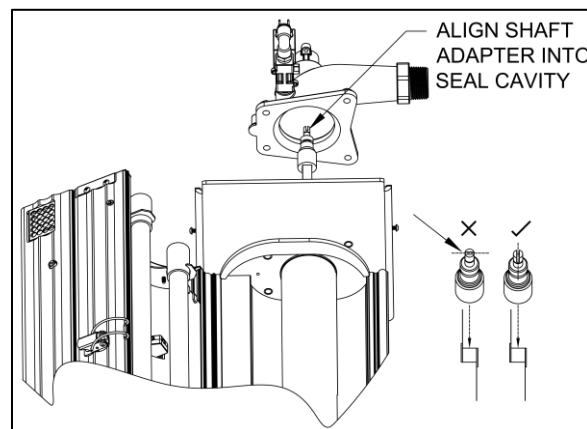

Figure 7-11
3. Once the quartz sleeve is clean, reassemble the unit (see Figure 7.11). Replace any seals that appear to have been damaged.
2. Ensure quartz O-ring seal is in place around quartz sleeve and then replace the top manifold by aligning the shaft adapter into the seal cavity of the top manifold (see Figure 7.11).